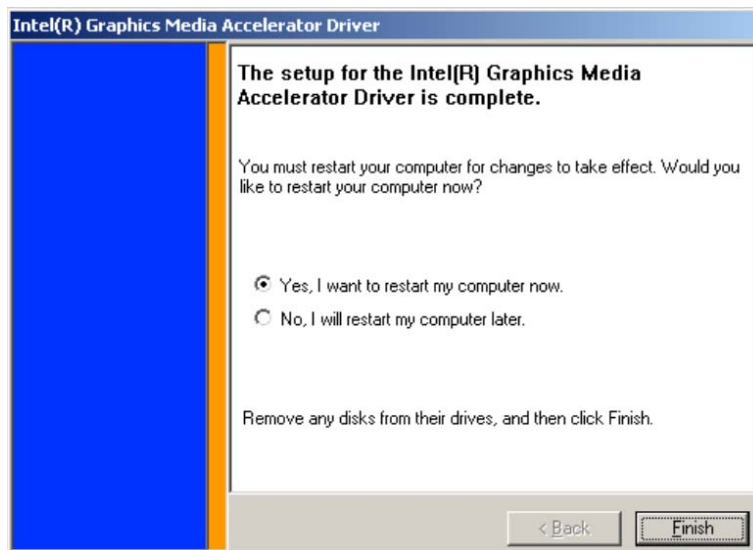

Figure 7-15: Intel® Graphics Media Accelerator Installation Complete
Step 13: After the driver installation process is complete, a confirmation screen appears (Figure 7-15).